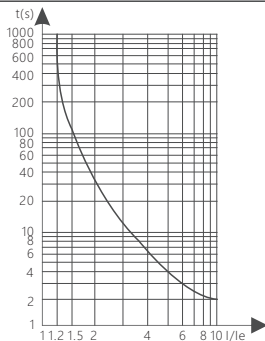

Figure 1 Relay time - current characteristic curve
2.2 See Figure 1 for relay operation time - current characteristic curve (3-phase, thermal state)